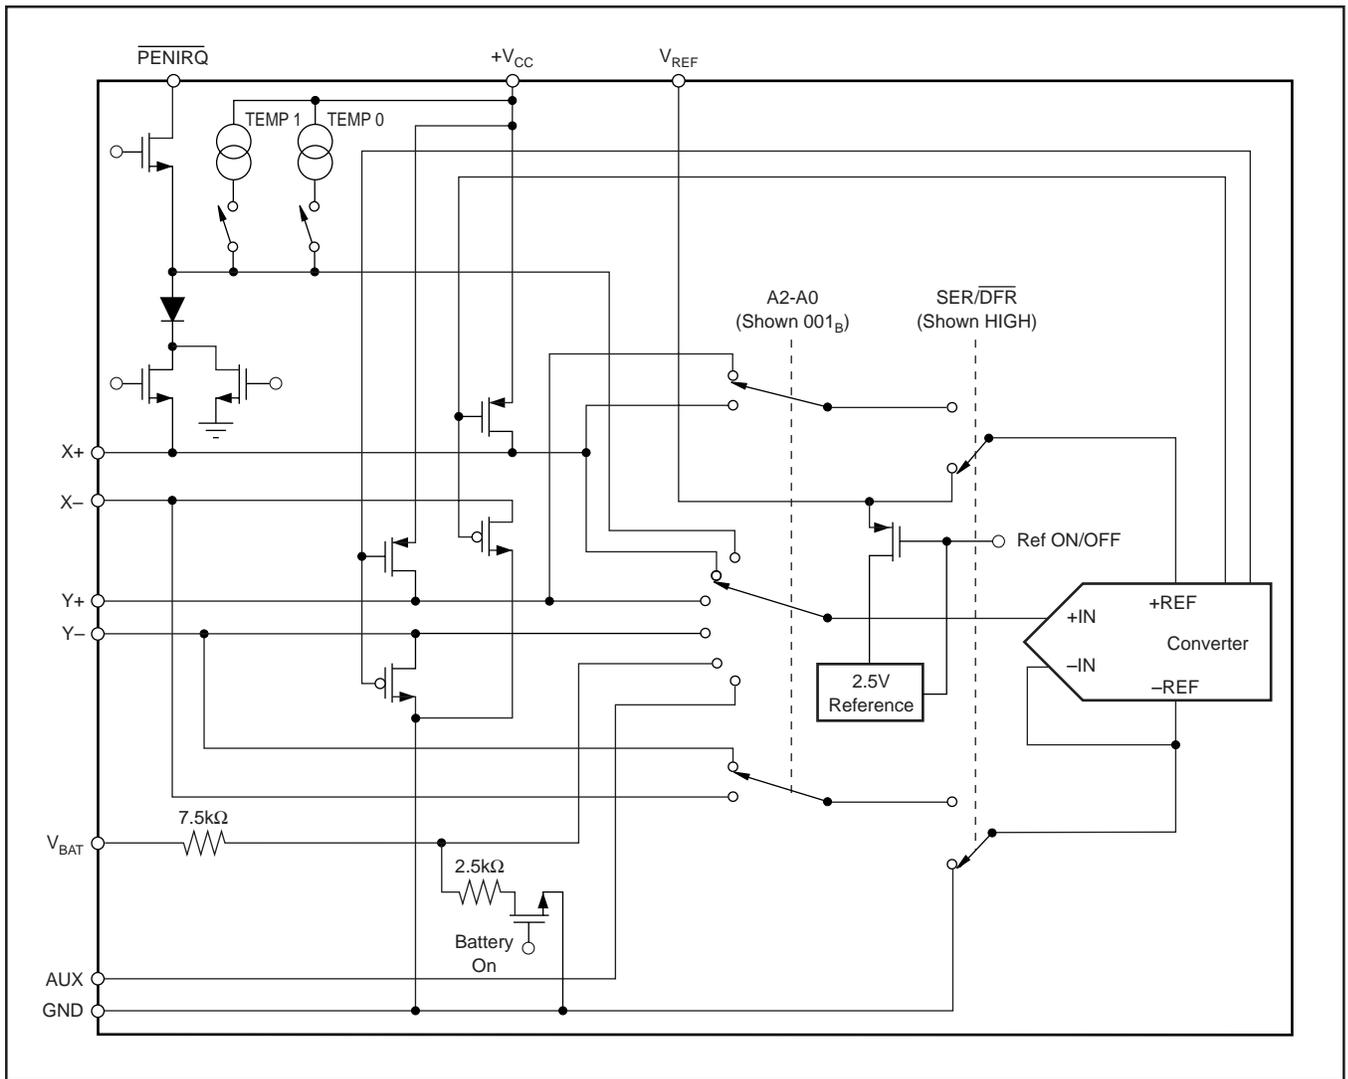

FIGURE 2. Simplified Diagram of Analog Input.
Figure 2 shows a block diagram of the input multiplexer on the ADS7846, the differential input of the A/D converter, and the converter's differential reference. Table I and Table II show the relationship between the A2, A1, A0, and SER/DFR control bits and the configuration of the ADS7846. The control bits are provided serially via the DIN pin—see the Digital Interface section of this data sheet for more details.
When the converter enters the hold mode, the voltage difference between the +IN and -IN inputs (see Figure 2) is captured on the internal capacitor array. The input current on the analog inputs depends on the conversion rate of the device. During the sample period, the source must charge the internal sampling capacitor (typically 25pF). After the capacitor has been fully charged, there is no further input current. The rate of charge transfer from the analog source to the converter is a function of conversion rate.
The voltage difference between +REF and -REF (see Figure 2) sets the analog input range. The ADS7846 will operate with a reference in the range of 1V to +VCC. There are several critical items concerning the reference input and its wide voltage range. As the reference voltage is reduced, the analog voltage weight of each digital output code is also reduced. This is often referred to as the LSB (Least Significant Bit) size and is equal to the reference voltage divided by 4096. Any offset or gain error inherent in the A/D converter will appear to increase, in terms of LSB size, as the reference voltage is reduced. For example, if the offset of a given converter is 2 LSBs with a 2.5V reference, it will typically be 5 LSBs with a 1V reference. In each case, the actual offset of
**Addressing**—The next three bits (A2, A1, and A0) select the active input channel(s) of the input multiplexer (see Tables I, II, and Figure 2), touch-screen drivers, and the reference inputs.
**$\overline{\text{SER/DFR}}$** —The  $\overline{\text{SER/DFR}}$  bit controls the reference mode, either single-ended (HIGH) or differential (LOW). The differential mode is also referred to as the ratiometric conversion mode. The differential mode is preferred for X-Position, Y-Position, and Pressure-Touch measurements for optimum performance. The reference is derived from the voltage at the switch drivers, which is almost the same as the voltage to the touch screen. In this case a reference voltage is not needed, as the reference voltage to the A/D converter is the voltage across the touch screen. In the single-ended mode, the converter’s reference voltage is always the difference between the  $V_{\text{REF}}$  and GND pins. See Tables I and II, and Figures 2 through 4 for further information.